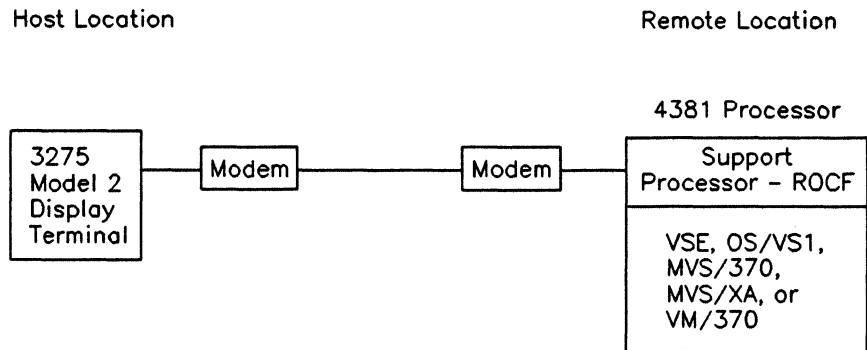

Figure 14. Dialup of a remote 4381 Processor via a 3275 display
- Dial up and control a remote powered-on 4381 Processor from a 3275 Model 2 Display Terminal at a host location, as shown in Figure 14. The operator at the host location can perform all the supported 4381 manual control functions (IPL, instruction processor function IML, display, alter, etc.) using the 3275 display that can be performed using a local console except for a power-on of the 4381 system and functions that require manual operation at the 4381 site (support processor IML, diskette change, for example). A DOS/VSE, VS1, MVS/370, MVS/XA, or VM/370 operating system can be IPLed in the 4381 Processor via a remote 3275 display.